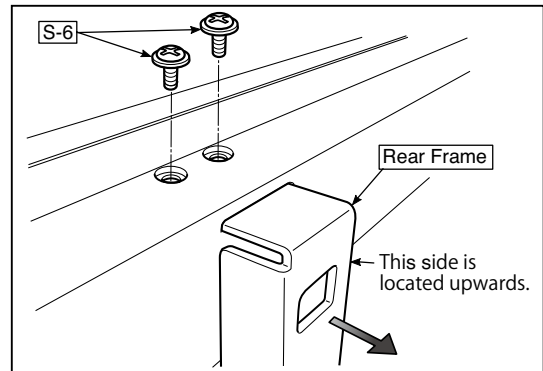

Fig.22
9) Remove the Rear Frame. (See Fig. 22)
- 1.Remove the "S-6" screws shown in the figure 22 and then remove the Rear Frame (two).